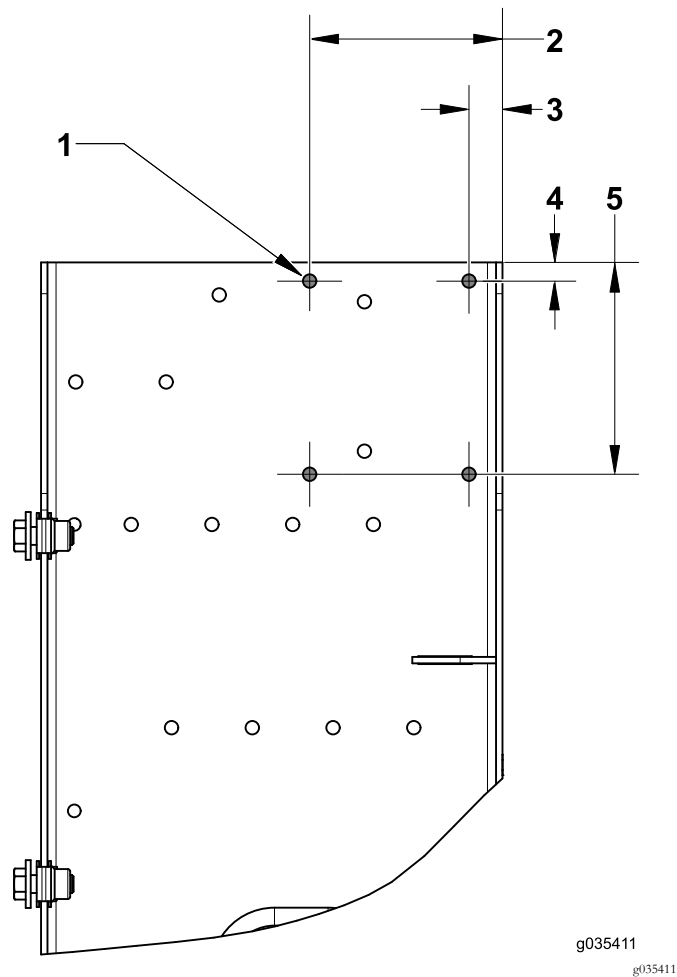

Figure 7
3. Locate and drill the following holes for the transmitter (Figure 7).